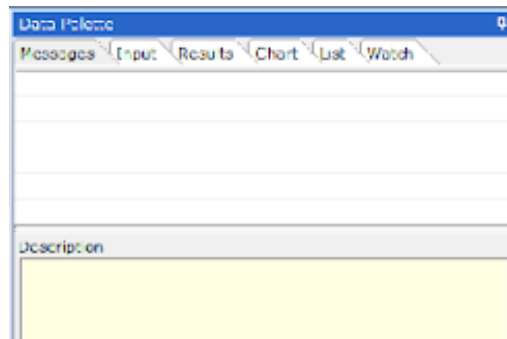

Figure 32: Warning Messages Tab.
31. Select the *Messages* tab on the *Data Palette*, we can view all warnings for the model including a description of each (Figure 32). The converged hydraulic model has no warnings. Therefore, we can now proceed with the analysis of the results.